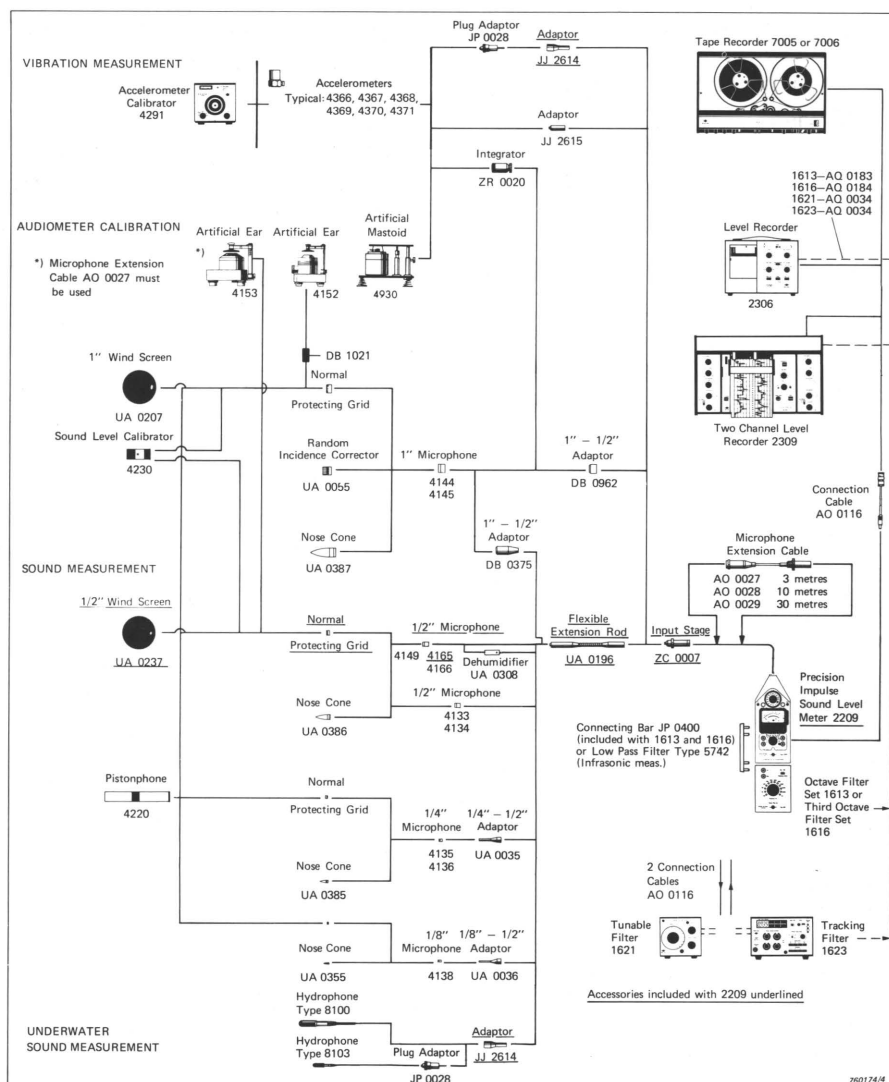

Fig. 4. Survey of accessories available for sound and vibration measurements
Brüel & Kjær offers a variety of microphones for special requirements. For measuring very high noise levels, use a 1/4 or 1/8 inch microphone. For sound power measurements in reverberant rooms, use a 1/2 inch Condenser Microphone Type 4134 to obtain a uniform random incidence response up to 20 kHz. And for measurements down to 19 dB(A) use the 1 inch Type 4145. Individual attenuator scales are supplied so that less sensitive microphones may be read directly in decibels. For complete specifications on individual microphones, refer to the data sheet on condenser microphones. See also Fig.4 herein for mounting adaptors that may be required.
the application possibilities of the sound level meter. A survey showing the connection possibilities of the most useful items is given in Fig.4. For more information on the individual instruments and transducers indicated, please ask for separate data sheets.